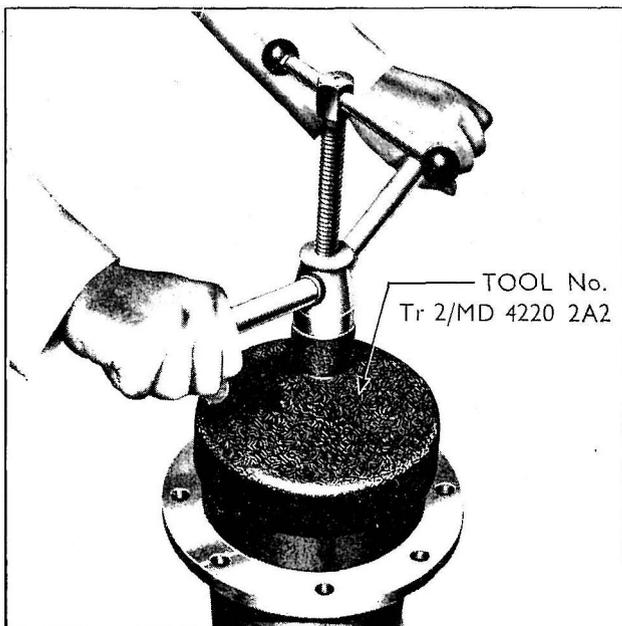

Fig. 172
- 7 Withdraw the inner cup from the housing, using the tool No. Tr2/MD 4220/2A2 as shown in Fig. 172, and the tool No. Tr2/MD 4220/2A2 for the outer cups as illustrated.